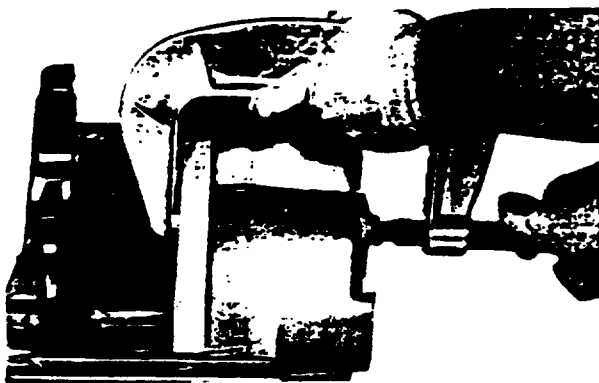

Figure 8-54. Pushing Pistons back into Caliper.
3. This will provide clearance for the caliper to fit over the hub and rotor when new shoe and linings are installed. See Figure 8-54.